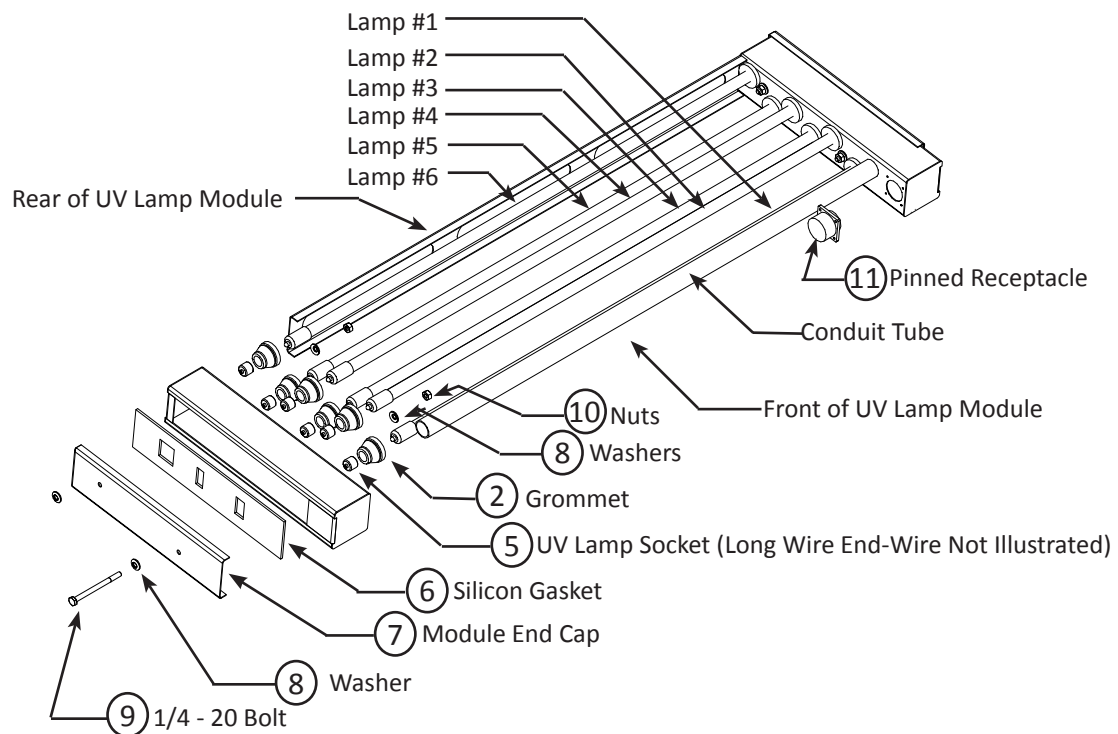

Figure 5-9-2
6. Referring to Figure 5-9-2, remove the two bolts pc #9, washer's pc #8, Module End Cap pc #7, and Silicon Gasket pc #6 from each end of the module.